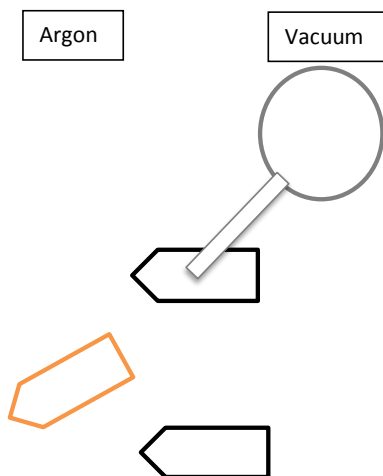

Figure 5 – system is open to solvent
16. SLOWLY open the middle solvent knob (figure 5). (*NOTE* - as indicated by figure 5, the solvent knob does not need to be fully opened! You only need to have a steady flow of solvent).